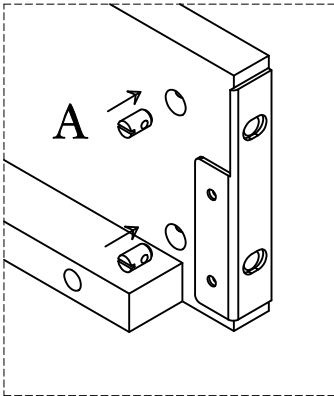

Figure 1
2. Insert the barrel nuts(A) into the holes in each bed rails as shown in (Figure 1). Make sure the slot on the top of the barrel nut is aligned with the hole in the end of bed rails as shown in (Figure 2 ). Once inserted, use a standard screwdriver to align the barrel nut. This will ensure proper alignment with the bolts later.